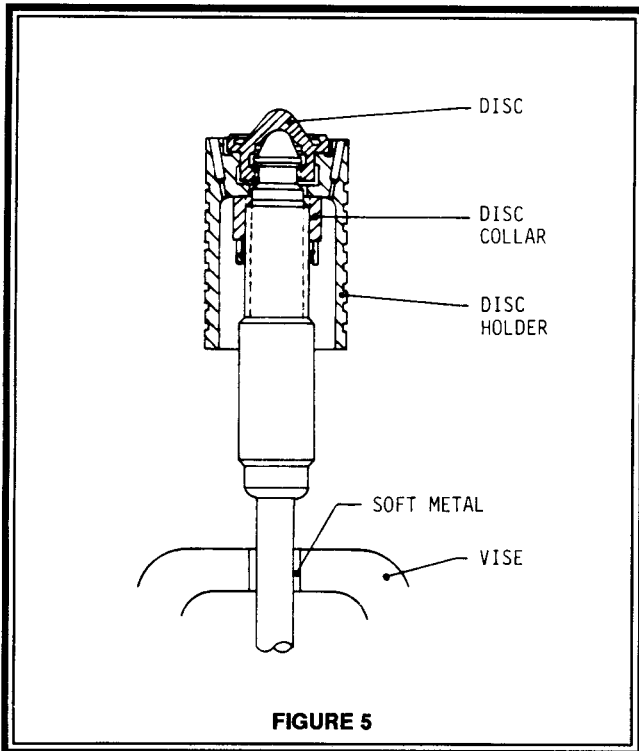

FIGURE 5
11. The spindle, disc, and disc holder assembly should be placed into a vise as shown in Figure 5. Lift the disc holder and remove the disc by unscrewing it from the spindle (turn counter-clockwise). Now remove the disc holder from the spindle. Leave the disc collar installed. If for some reason the disc collar must be removed, remove the cotter pin, and turn the disc collar counter clockwise to remove.